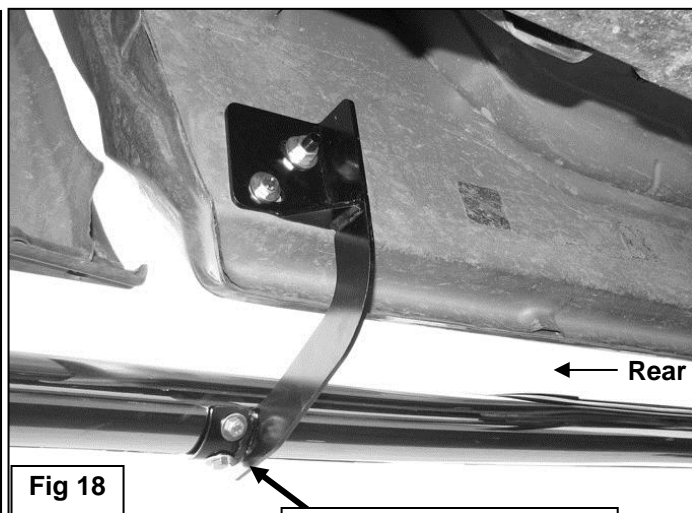

Fig 18
9. Once all (4) of the driver side Brackets have been installed, with assistance, carefully position the driver Sidebar up to the front Bracket and onto the (3) Mounting Brackets. Attach the Sidebar to the front bracket with the included (1) 1/2" x 2" Hex Bolt, (1) 1/2" Lock Washer and (1) 1/2" Flat Washer, **(Figure 17)**. Bolt the Sidebar to the (3) cradles on the Mounting Brackets with the included (6) 8mm x 25mm Hex Bolts, (6) 8mm Lock Washers, and (6) 8mm Flat Washers, **(Figure 18)**. Do not tighten hardware.